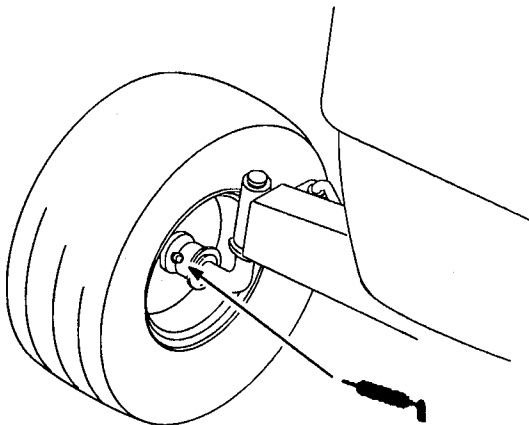

Figure 13
1. Lubricate the front wheels until grease begins to ooze out the bearings (Fig. 13).